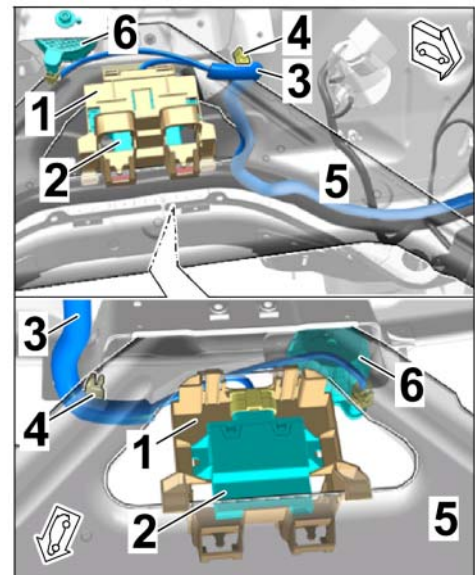

Figure 14
2.1.4 Establish a plug connection from the wire harness for the engine noise control unit (⇒ *Figure 14 -3-*) to the engine noise control unit (6-pin ⇒ *Figure 14-2-*).
2.1.5 Install the holder with the engine noise control unit to the strut brace (plenum panel area) (⇒ *Figure 14*).